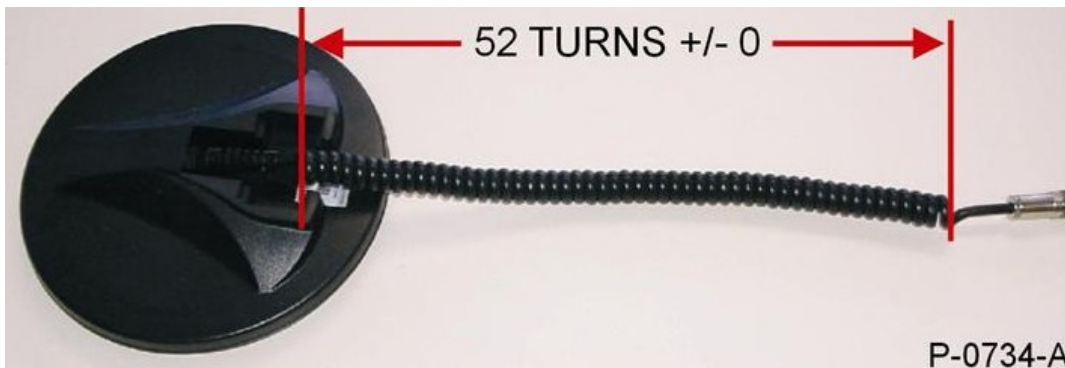

Figure 19: Coil Cable with 52 Turns
- Prior to threading the cable through the shafts, ensure the cable has 52 turns in the coil cable curly section. (Figure 19)